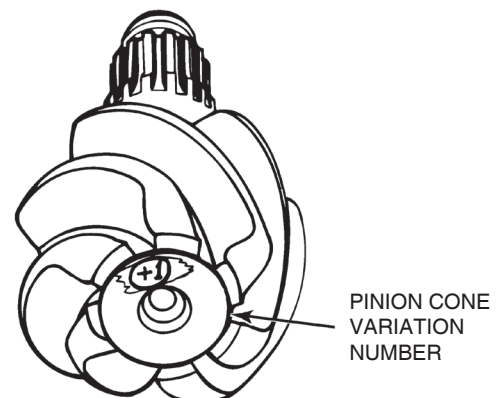

Figure 5.3
2. Find the pinion cone (PC) variation number on the drive pinion you'll replace. Record the number. Figure 5.3.